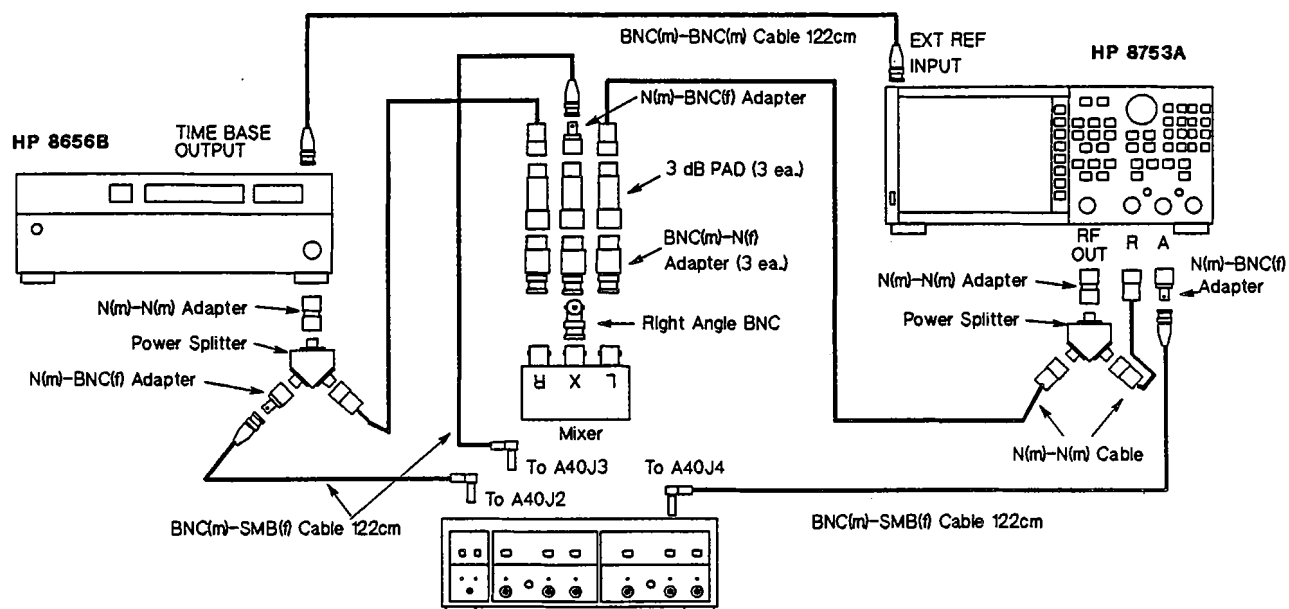
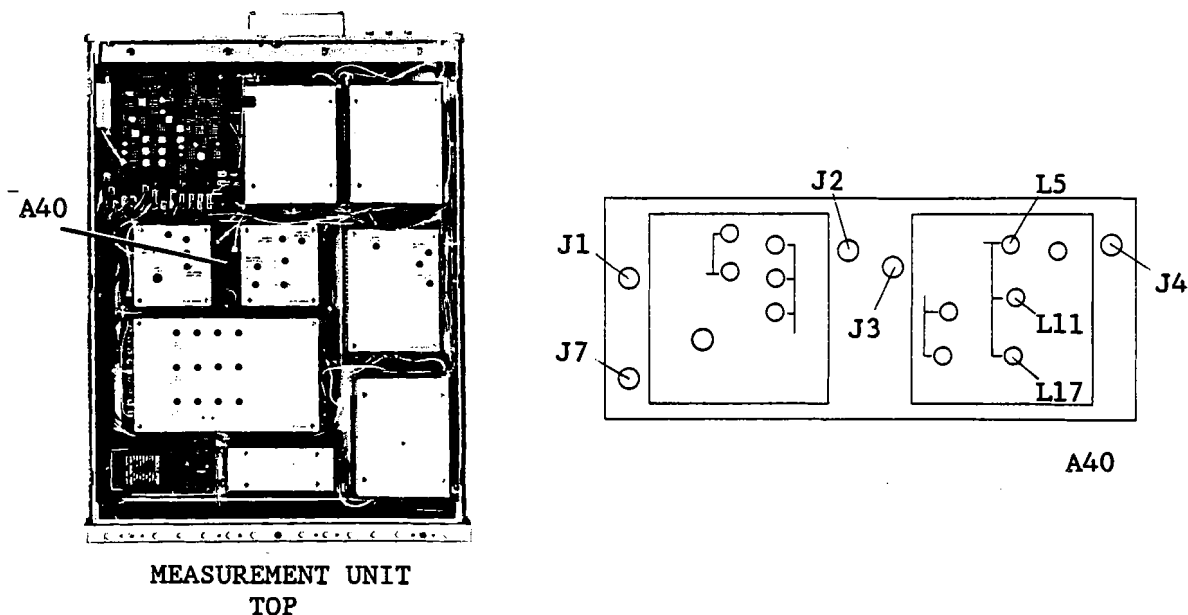

Figure 3-107. Source Third IF Converter 246 MHz BPF Adjustment Setup
Figure 3-108. Source Third IF Converter 246 MHz BPF Adjustment Locations
1. Connect the equipment as shown in Figure 3-107. See Figure 3-108 for the locations of A40J2, A40J3 and A40J4.
2. Disconnect coaxial cables (H), and (N) from connectors A40J1, and A40J7.